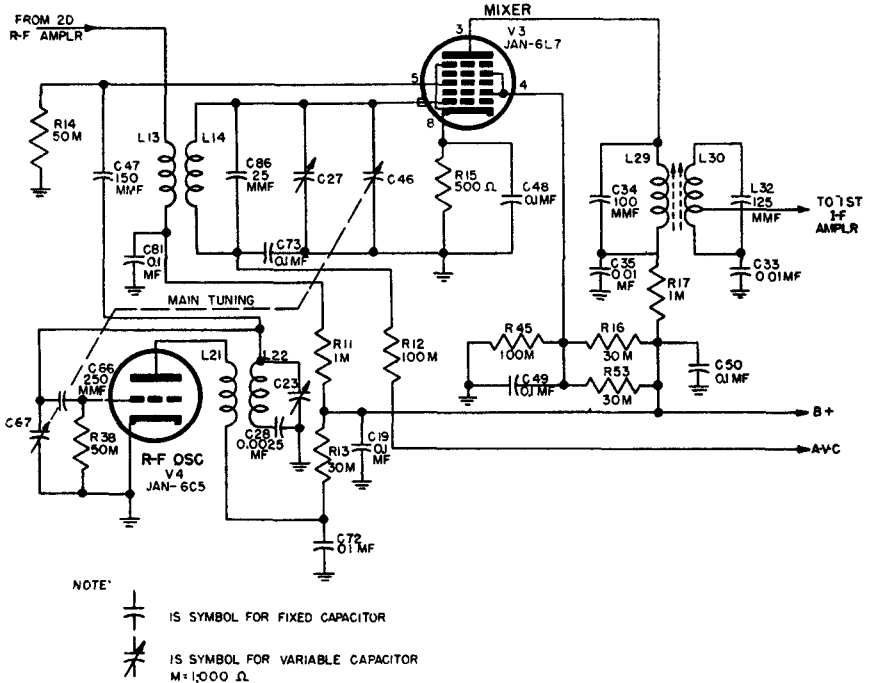

Figure 24. Mixer and r-f oscillator stages, m-f models.
b. RADIO RECEIVERS BC-314-(\*) AND BC-344-(\*). (1) A simplified schematic diagram of the mixer stage and r-f oscillator stage in the m-f receiver models is shown in figure 24. The mixer stage is similar to the mixer stage in the h-f receiver models with the exception of the tuned grid input circuit. This circuit consists of inductor L14 and capacitors C27, C46, C73, and C86 whose functions are identical to the corresponding elements in the r-f amplifier tuned circuits in the h-f receivers.